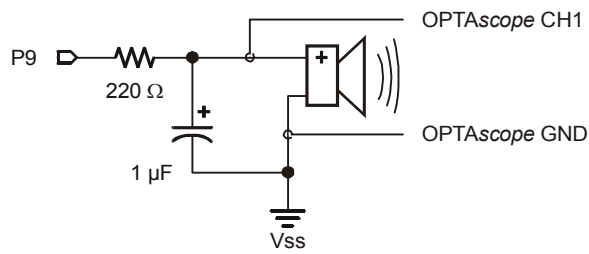
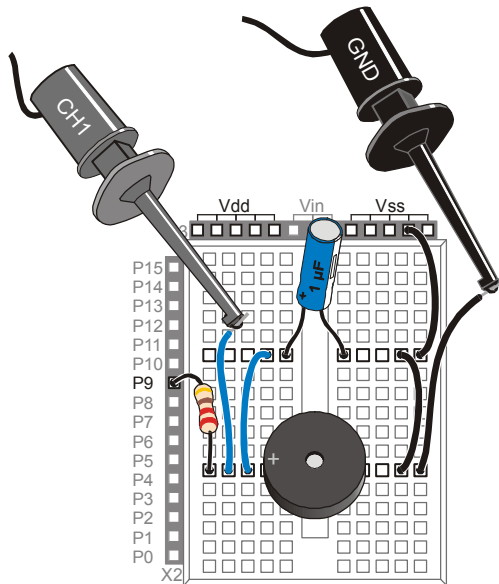

Figure 3-3:
Figure 3-4:
- ✓ Build the circuit as defined by the schematic in Figure 3-3. Awiring diagram of the circuit is shown in Figure 3-4. If using the HomeWork Board, omit the 220 Ω resistor as one is already built in; replace with a jumper wire to make the necessary connection.
Remedy: If you do not have a true piezoelectric speaker at your disposal, you can still view the signal by removing the speaker from the circuit shown in Figure 3-3 and Figure 3-4. When you re-run the program and capture the signal, it should more closely resemble the piezo speaker signal example.